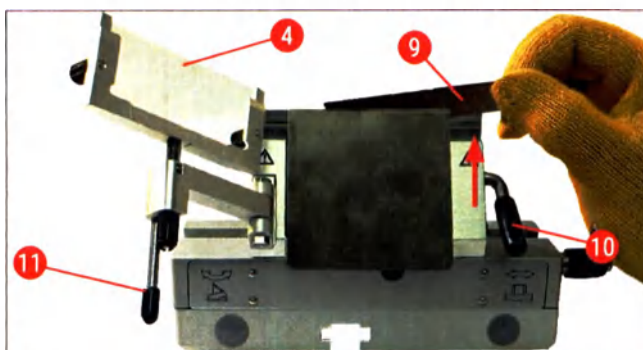

Fig. 31
2. Open the clamping lever (→ Fig. 31-10) by turning it counterclockwise (→ "Fig. 31").
3. Carefully insert the blade (→ Fig. 31-9) from above or from the side between the pressure plate and the blade rest. Make sure that the blade is inserted so that it is centered and lies evenly along the ledge (see red arrow in (→ "Fig. 31")).